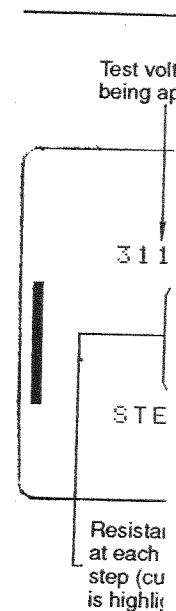

Figure 28
3. Press the green button to start the test. The screen display will be as shown in figure 28; having the same basic features as before but showing the test result for each step of the test digitally. The test will commence with an applied voltage one fifth of the maximum set i.e. 500 V or 1000 V, and will remain at that level for one minute. It will then automatically increase by another fifth i.e. to 1000 V or 2000 V respectively for the two ranges, and remain stable at that figure for another minute.